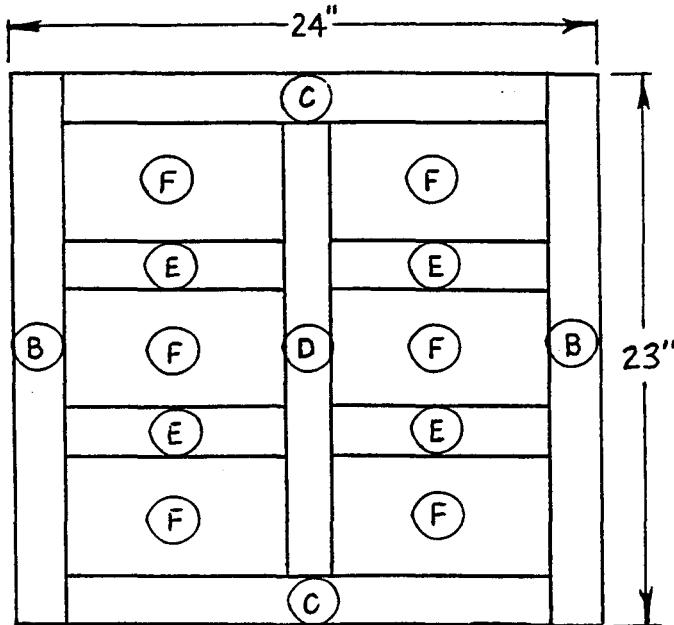

Figure 1.
Step 2: Position **back A** face up on your work area so that the 24" dimension is horizontal and the 23" dimension is vertical. Test fit all pieces according to Figure 1 before gluing takes place. The doors should have a clearance of 1/16" on all sides. Any necessary adjustments can be made by sanding the appropriate pieces. The position of each strip or door can be noted by its letter designation in Figure 1.